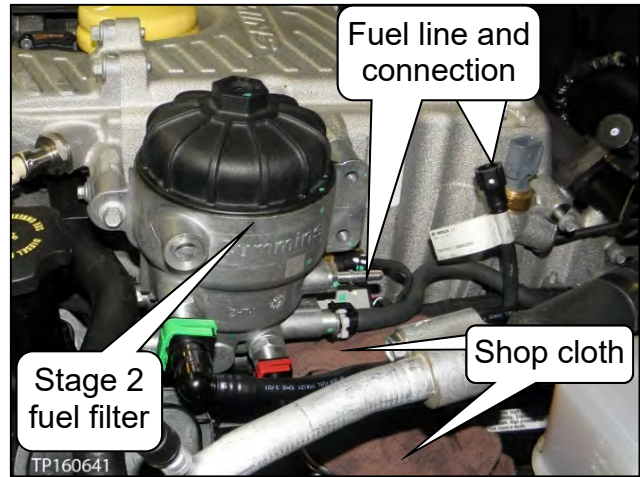
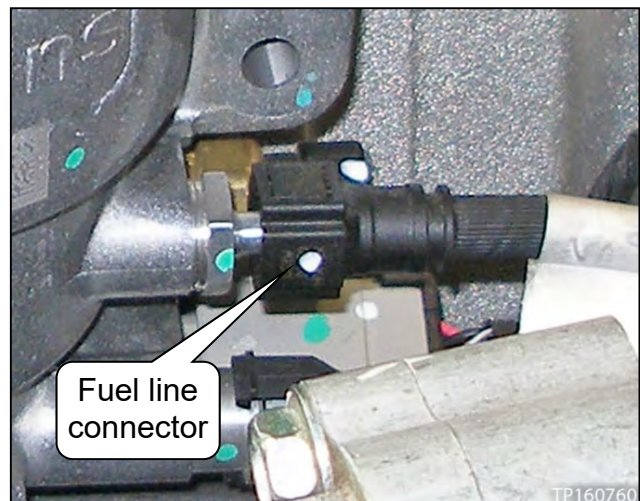

Figure 25
Figure 26
- b. Place clean shop cloths under the stage 2 fuel filter assembly fuel line (see Figure 25).
- c. Disconnect the fuel line shown in Figure 25 and Figure 26.
- To remove the fuel line, pinch the tabs on both sides of the fuel line connector, and then pull off (see Figure 26).